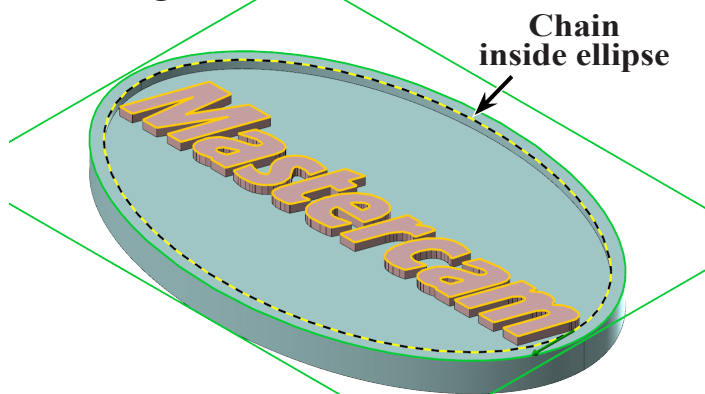

Fig. 34
Step 5. Click the **inside ellipse** to Chain the ellipse and click OK  in Chain dialog box, Fig. 34.